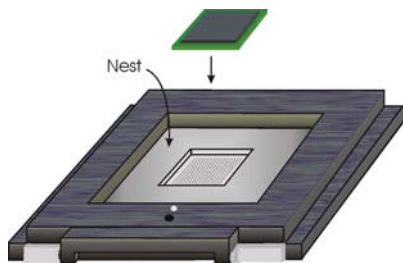
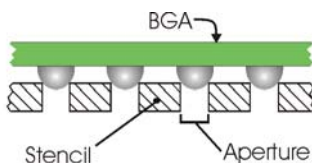

Figure 1
Figure 2
*Alignment Accuracy* – The Component Print Station is self aligning. An internal nest may be used to position the component body with respect to the stencil (see figure 1). The solder balls protrude slightly into the stencil apertures providing accurate alignment (see figure 2).